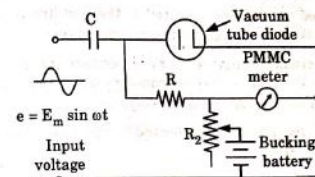

Fig. 4.3.2. Compensated shunt type diode peak reading voltmeter.
5. Fig. 4.3.2, shows the circuit consists for a compensated shunt type of peak reading diode VTVM.